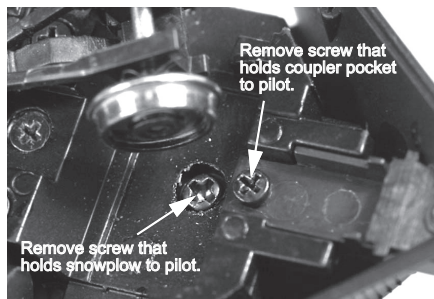

Figure 25 – Remove the screws holding the snowplow and coupler pocket to the pilot.
3. Place the pony truck over to one side to expose the screw that secures the snowplow to the pilot as shown in Figure 25. Remove this screw. Next, remove the screw that holds the coupler pocket to the pilot. You will need to remember which screw goes where for re-assembly. Set both of these screws aside for re-use.